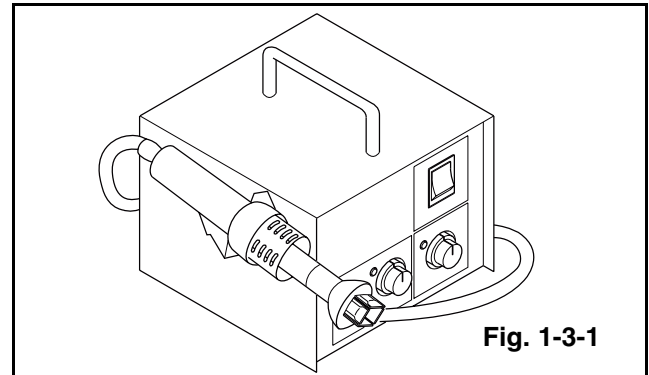

Fig. 1-3-1
- (1) Prepare the hot-air flat pack-IC desoldering machine, then apply hot air to the Flat Pack-IC (about 5 to 6 seconds). (Fig. 1-3-1)